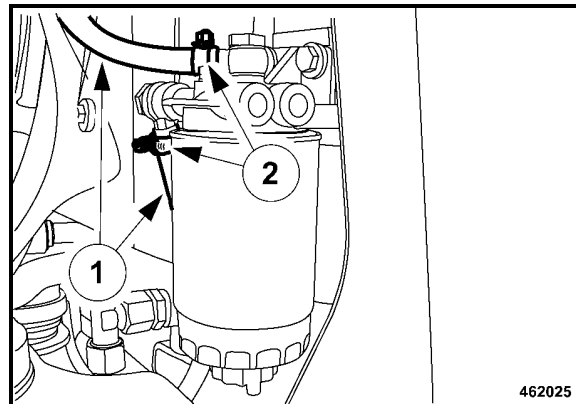

Fig. 128
- Check the condition and tight fit of all fuel lines (1) (Fig. 128) and hose clamps (2).